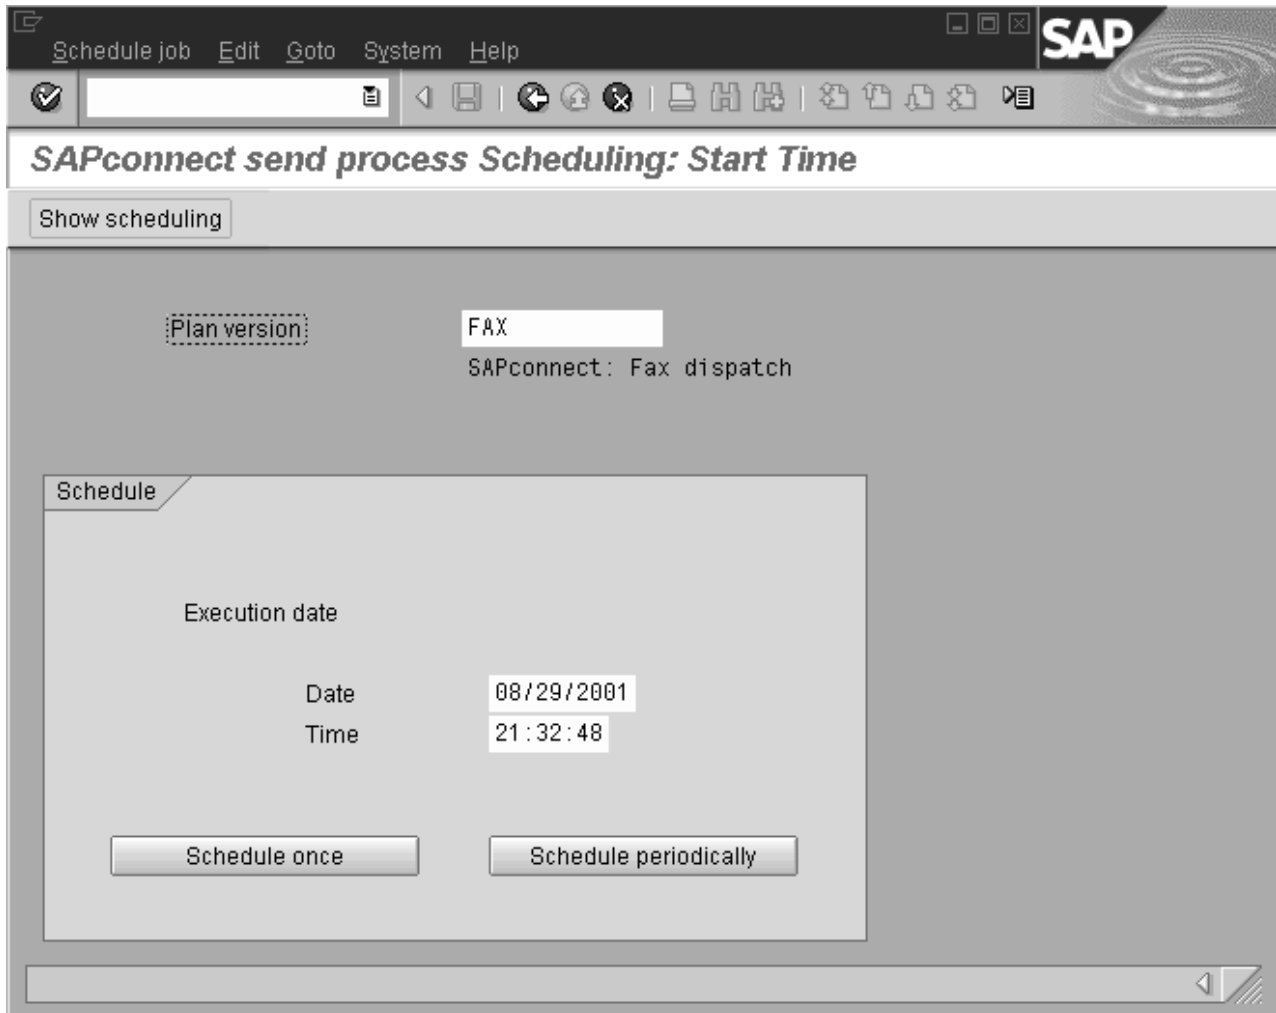

Figure 49. SAPconnect send process Scheduling: Start Time window
6. From the **SAPconnect send process Scheduling: Start Time** window (Figure 49), you can specify the sending characteristics of this job by clicking on the **Schedule Periodically** button and set values for how often you want the fax requests to be sent.